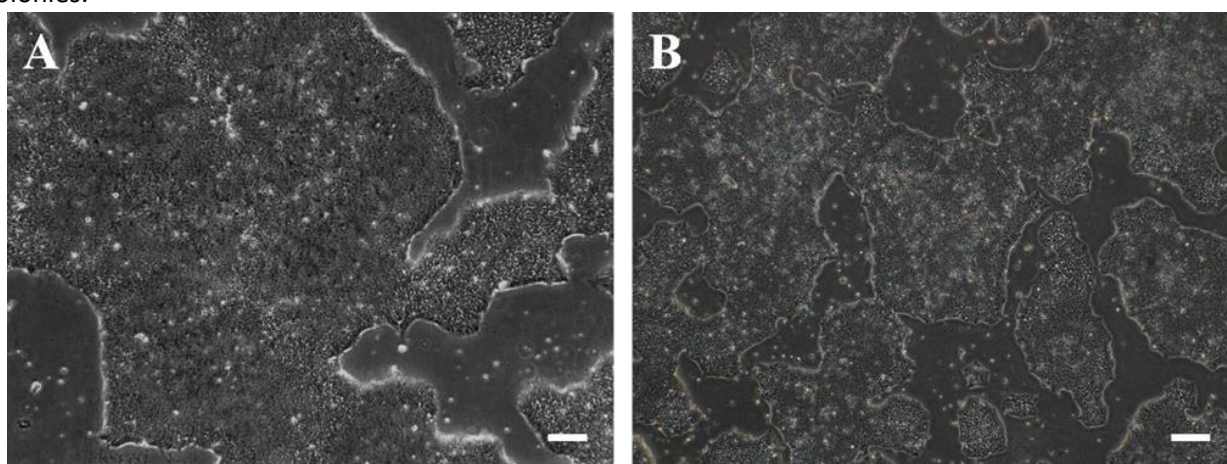

Figure 1: hiPSC clones at approximately 85% confluence.
1.1 When cell confluence reaches approximately 85% (Figure 1), normally 4 days after seeding. Even if the clones are small and confluence is insufficient, continuous culture should not exceed 5 days.
The passaging ratio can range from 1:5 to 1:20 depending on cell growth status and experimental requirements. If cells are healthy, with 85% confluence and uniform clone size (Figure 1), a 1:10 ratio is recommended. Reduce the ratio if cell density is low; increase the ratio if density is high.
1. When the cell confluence reaches about 85% (Figures 1), cells can be harvest for cryopreservation. Typically, 2×10^6 - 4×10^6 viable cells per well of a 6-well plate can be collected and frozen in one cryovial.